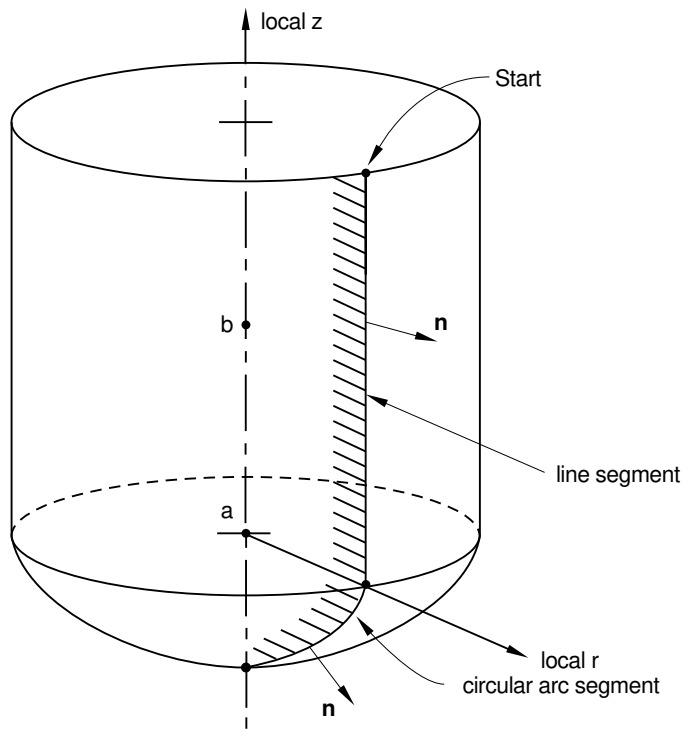

Figure 2: *SURFACE, TYPE=REVOLUTION.
1. Global X -coordinate of point a , the origin of the local (r, z) system (see Figure 2).